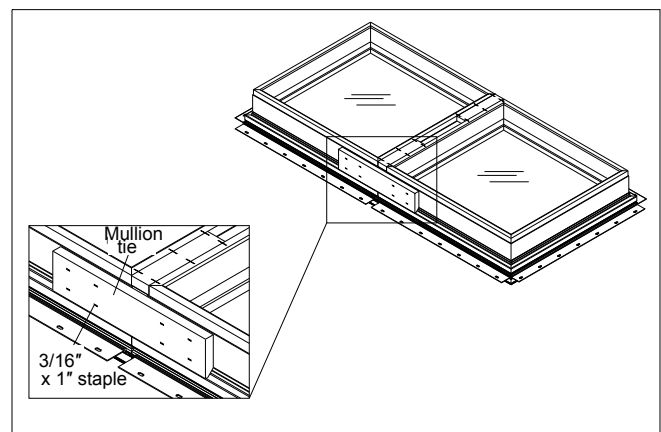

Figure 22
4. Attach mullion tie blocks at head jamb mullion with at least four 3/16" x 1" 18 gauge staples on each side as shown in figure 22. Carefully set the upper units aside.